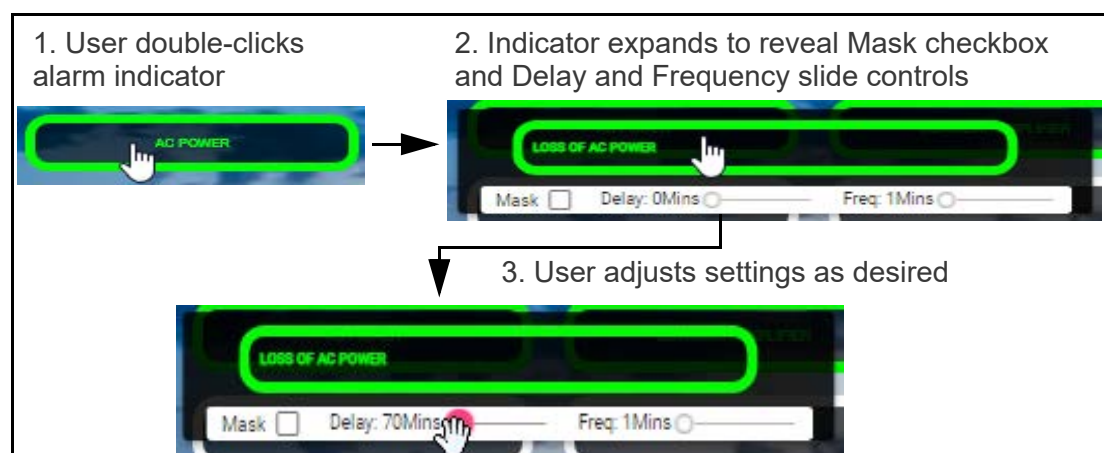

Figure 5-10 Accessing alarm configuration tools
As shown in Figure 5-10 below, the user can now configure the **Mask** checkbox and slide controls to set the **Alarm Delay** and **Frequency** of SNMP traps sent.
2. Double-click on the first alarm you want to edit. Activate the tools to adjust settings as shown in Figure 5-10.